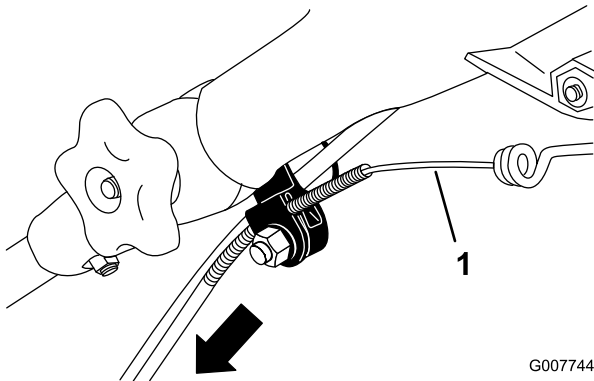

Figure 33
3. Pull the cable jacket downward until you remove the slack in the exposed cable (Figure 33).